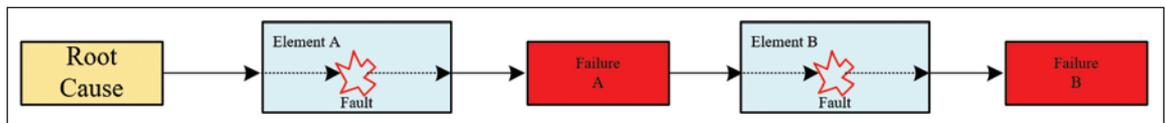

Figure 9: Cascading failure model
- *Cascading faults:* Where a fault in one element, leads to the fault in another element (Figure 9).